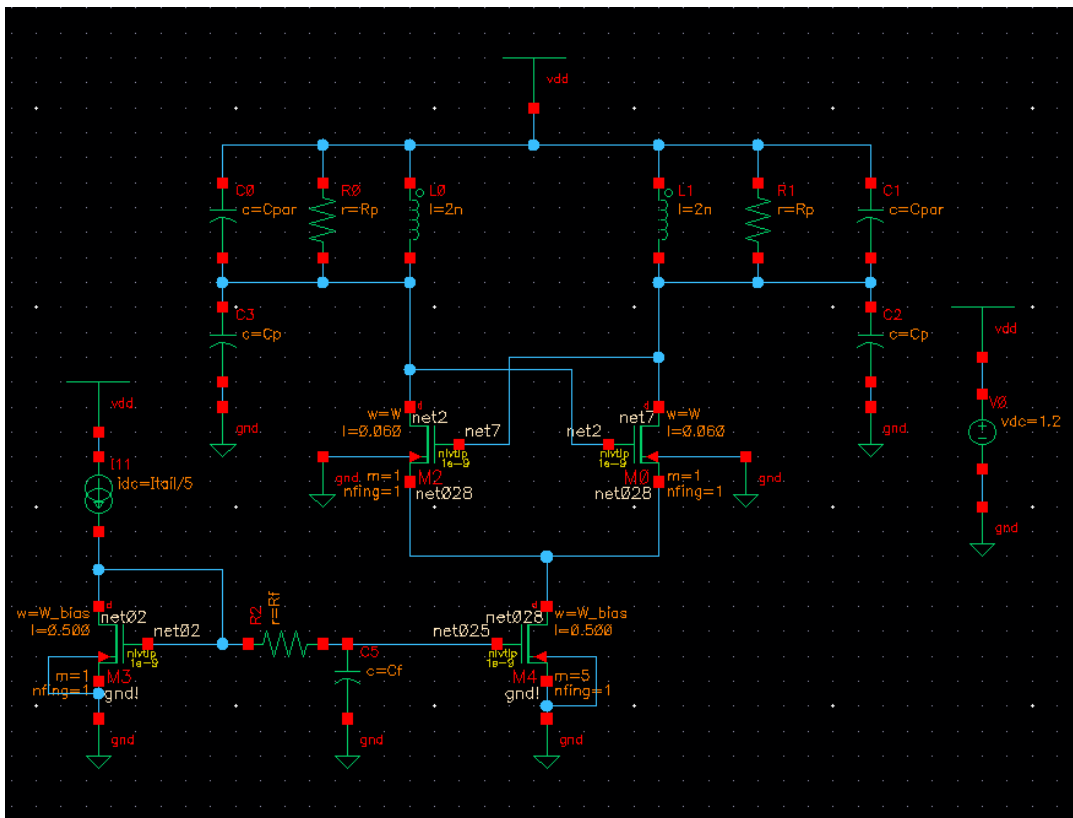

Fig. 11
- Implement a low-pass RC filter as depicted in Fig. 11 to filter out the current mirror’s flicker noise and examine how the phase noise and contributions change ($R=2\ \text{k}\Omega$, $C=1\ \text{pF}$). Does it help with the flicker noise?